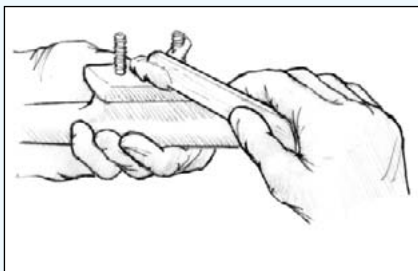

Figure 17 Coat the hardware bottom and the fastener threads with thickened epoxy.
4. Inject a non-sagging epoxy/404 or 406 mix into the hole. Use sufficient mix to ensure there are no voids in the hole after inserting the fastener. Coat the bottom of the hardware and the fastener threads with thickened epoxy (Figure 17).